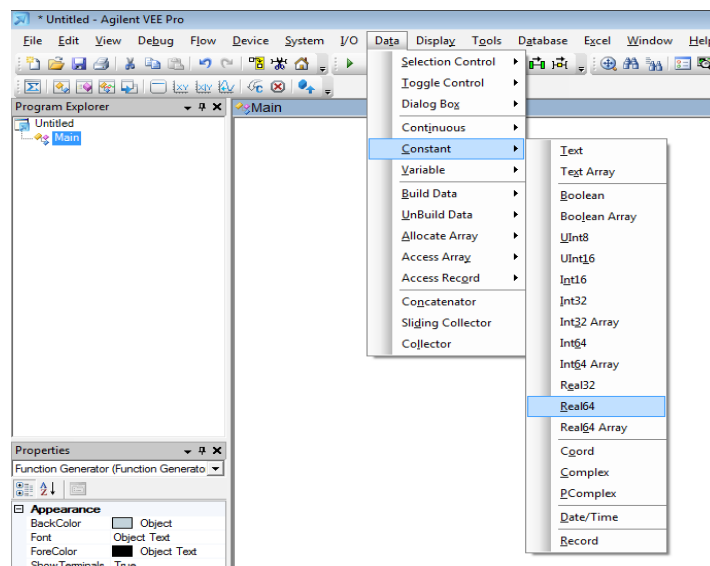

Fig. 18. Adding a Real64 Constant
- Select **Menu Bar** → **Constant** → **Real64** as shown in Fig. 18.